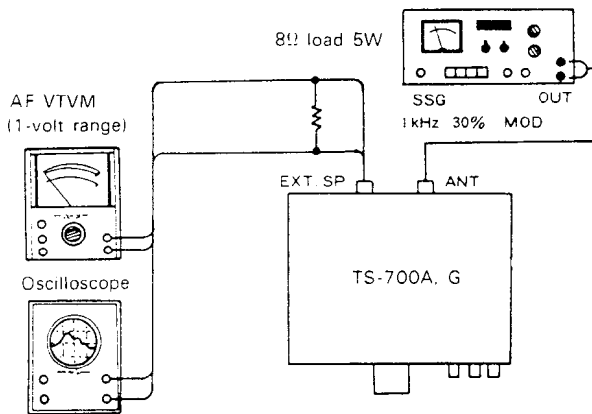

Fig. 17
Cable the equipments as shown in Fig. 17.
- 1) Referring to Fig. 17, feed the SSG output of 146.5 MHz (700A), 145 MHz (700G), not modulated, at $10\mu\text{V}$ (20 dB) into the transceiver set for FM mode reception. The input level should be such that the pointer of "S" meter will swing to and stay at the middle position on the scale.